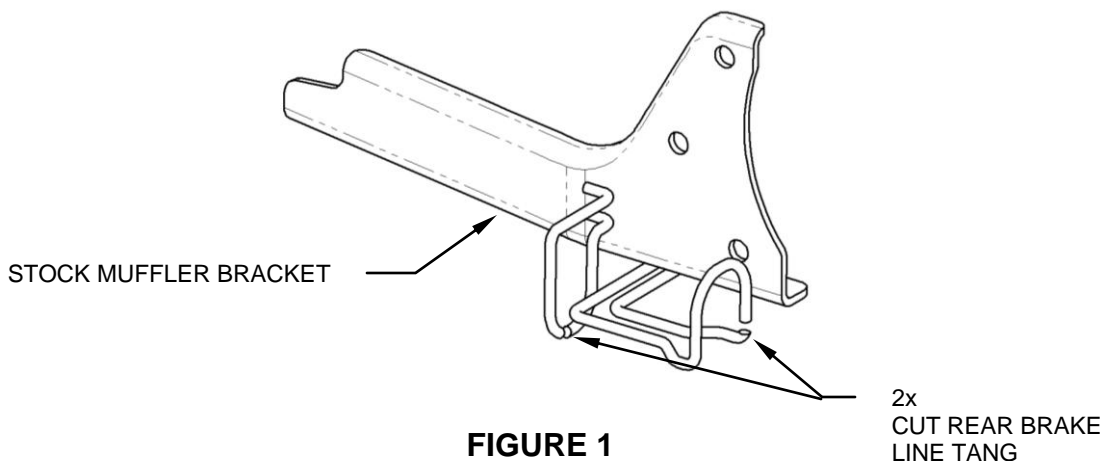

FIGURE 1
3. Remove the stock exhaust-mounting bracket. **NOTE: The bracket brake line guide must be cut and spread apart so you can remove the brake line from the bracket.** Refer to Figure 1. **DO NOT REMOVE THE STOCK BRAKE LINE.**